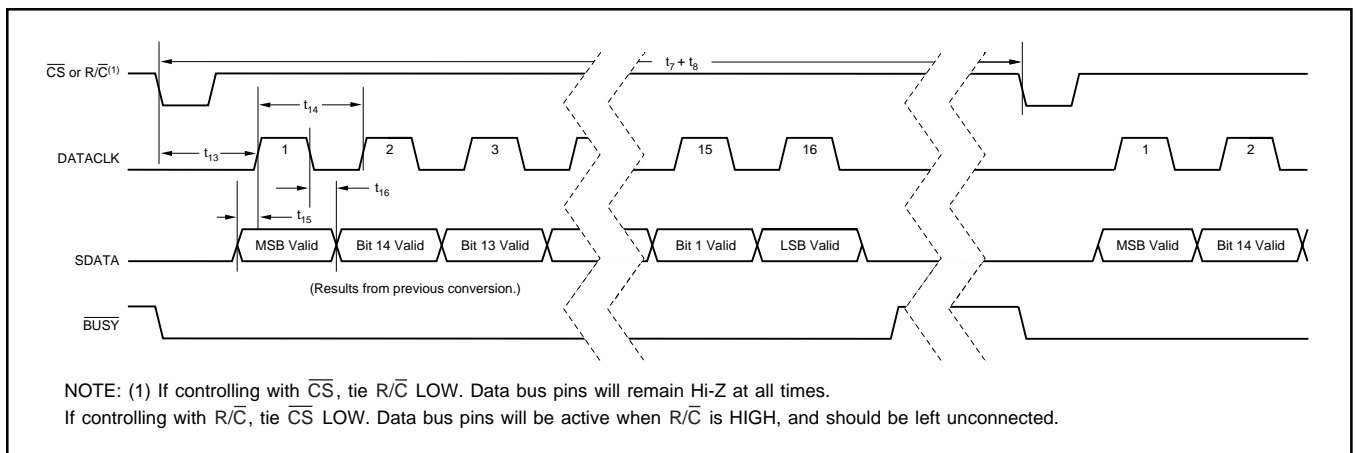

FIGURE 4. Serial Data Timing Using Internal Data Clock (TAG tied LOW).
NOTE: (1) See Figures 4, 5, and 6 for constraints on data valid from conversion 'n - 1'.
To use the internal data clock, tie $\text{EXT}/\overline{\text{INT}}$ (pin 8) LOW. The combination of R/\overline{C} (pin 22) and $\overline{\text{CS}}$ (pin 23) LOW will initiate conversion 'n' and activate the internal data clock (typically 900kHz clock rate). The ADS7807 will output 16 bits of valid data, MSB first, from conversion 'n-1' on SDATA (pin 19), synchronized to 16 clock pulses output on DATACLK (pin 18). The data will be valid on both the rising and falling edges of the internal data clock. The rising edge of $\overline{\text{BUSY}}$ (pin 24) can be used to latch the data. After the 16th clock pulse, DATACLK will remain LOW until the next conversion is initiated, while SDATA will go to whatever logic level was input on TAG (pin 20) during the first clock pulse. Refer to Table V and Figure 4.